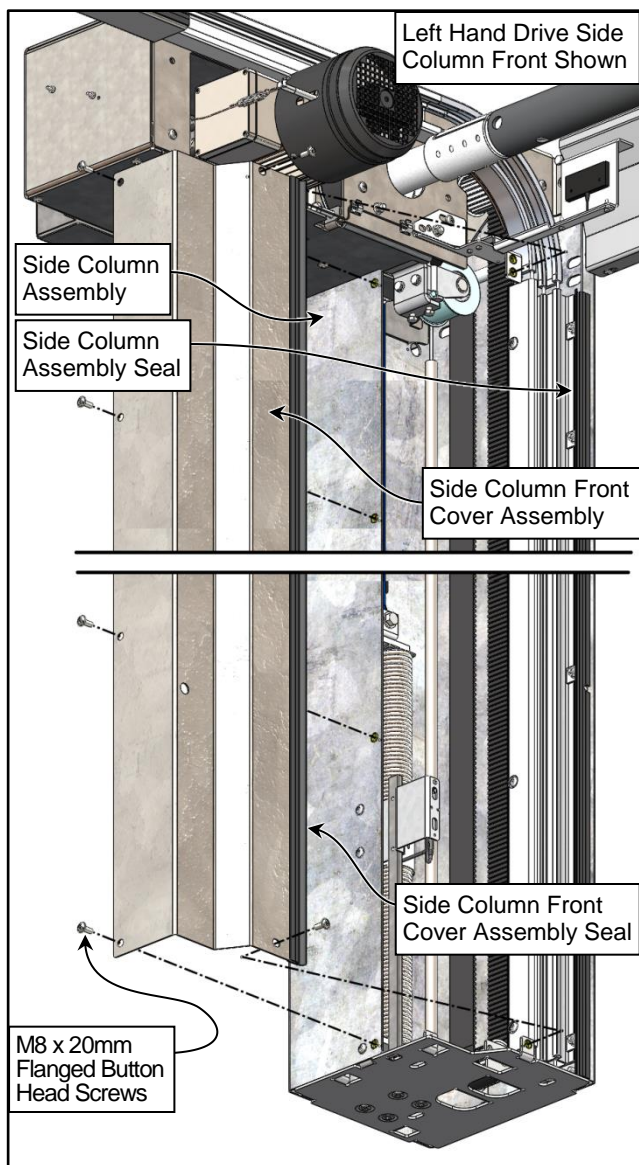

Figure 22
3. Remove the side cover from each side column. Each cover is held in place with 20-mm long Button Head TORX® screws. (See Figure 22)
- Remove the side cover from each side column. Each cover is held in place with 20-mm long Button Head TORX® screws. (See Figure 22)